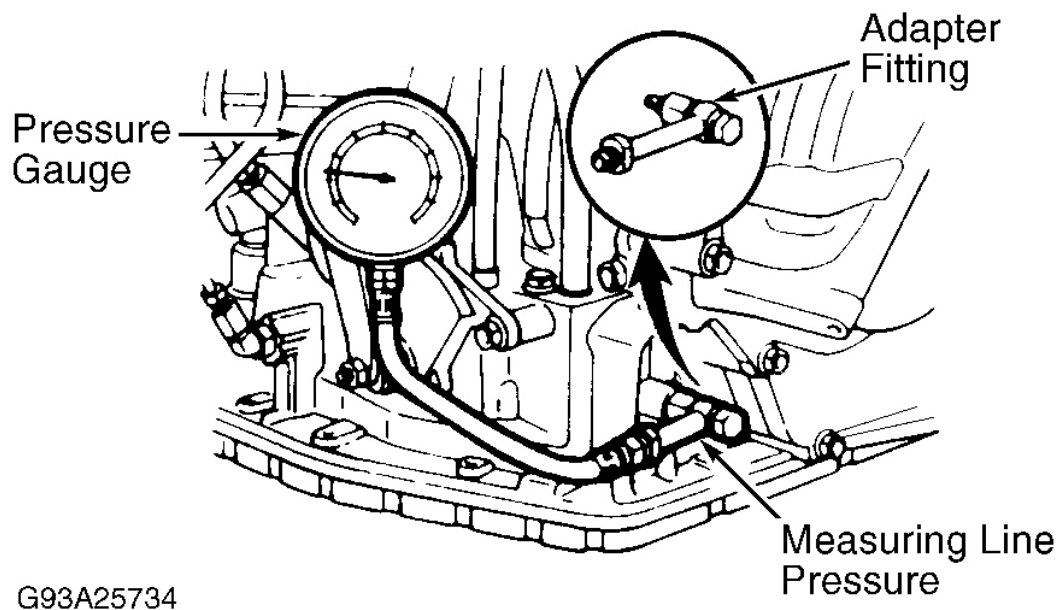

Fig. 5: Checking Hydraulic Pressure
- 1. Ensure transmission fluid is at operating temperature. Raise and support vehicle. Remove transaxle case test plug and install pressure gauge. See **Fig. 5** . Lower vehicle and block all wheels.